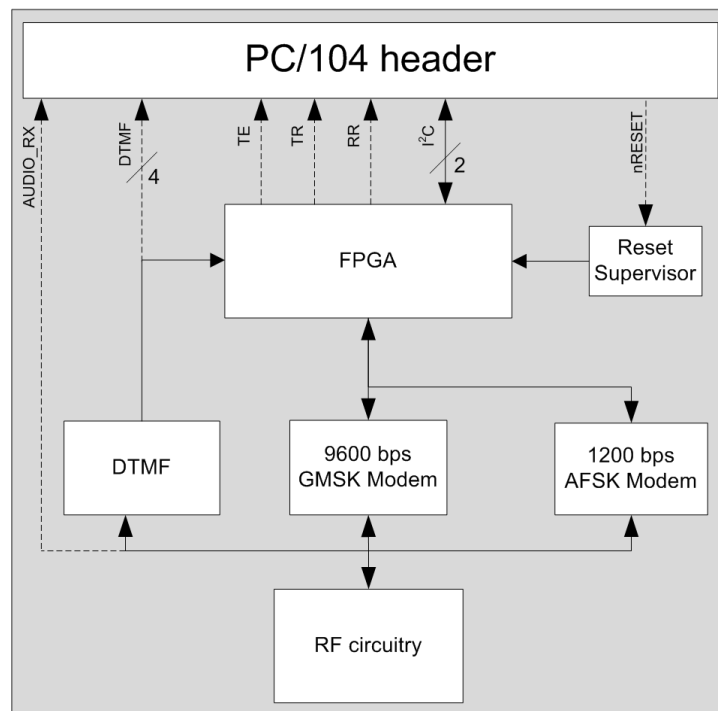

Figure 4: Block diagram of the CSK header connections. Broken lines indicate optional connections
Figure 4 illustrates the connections that are made available at the CSK header. Broken lines indicate optional connections. The only non-optional connection to the header (excluding power signals) is I²C. Optional connections that are provided on the header include DTMF signals, a transmit ready (TR) signal, transmit empty (TE), receive ready (RR), FPGA reset and the received baseband audio. The optional connections can be selected at the time of production and should be selected according to application and performance requirements. Should the optional functionality not be required it will not be made available at the header (there will be no physical connection). An explanation of the various connections is detailed later within this document. All signal voltage levels are 3.0 V LVCMOS. The AUDIO RX signal is the analogue demodulated baseband audio from the receiver. Note that should this signal be required that it is AC coupled meaning any DC offset would need to be recreated on the subsystem making use of the audio.